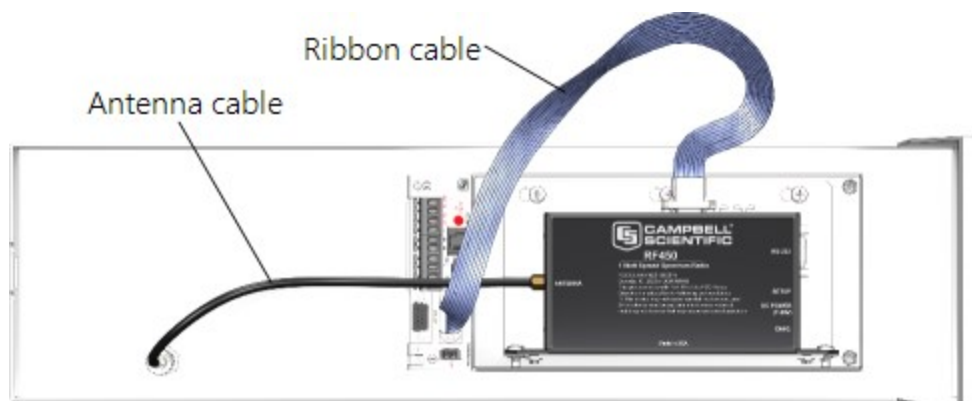

FIGURE 6-26. Radio mounted in the T107 (battery not shown)
1. Mount the bracket and radio inside the enclosure using the three existing screws (FIGURE 6-26 (p. 43)).
3. Attach the other end of the cable to the BNC RF bulkhead connector in the lower right corner of the enclosure. Make sure all connections are tight (FIGURE 6-26 (p. 43)).